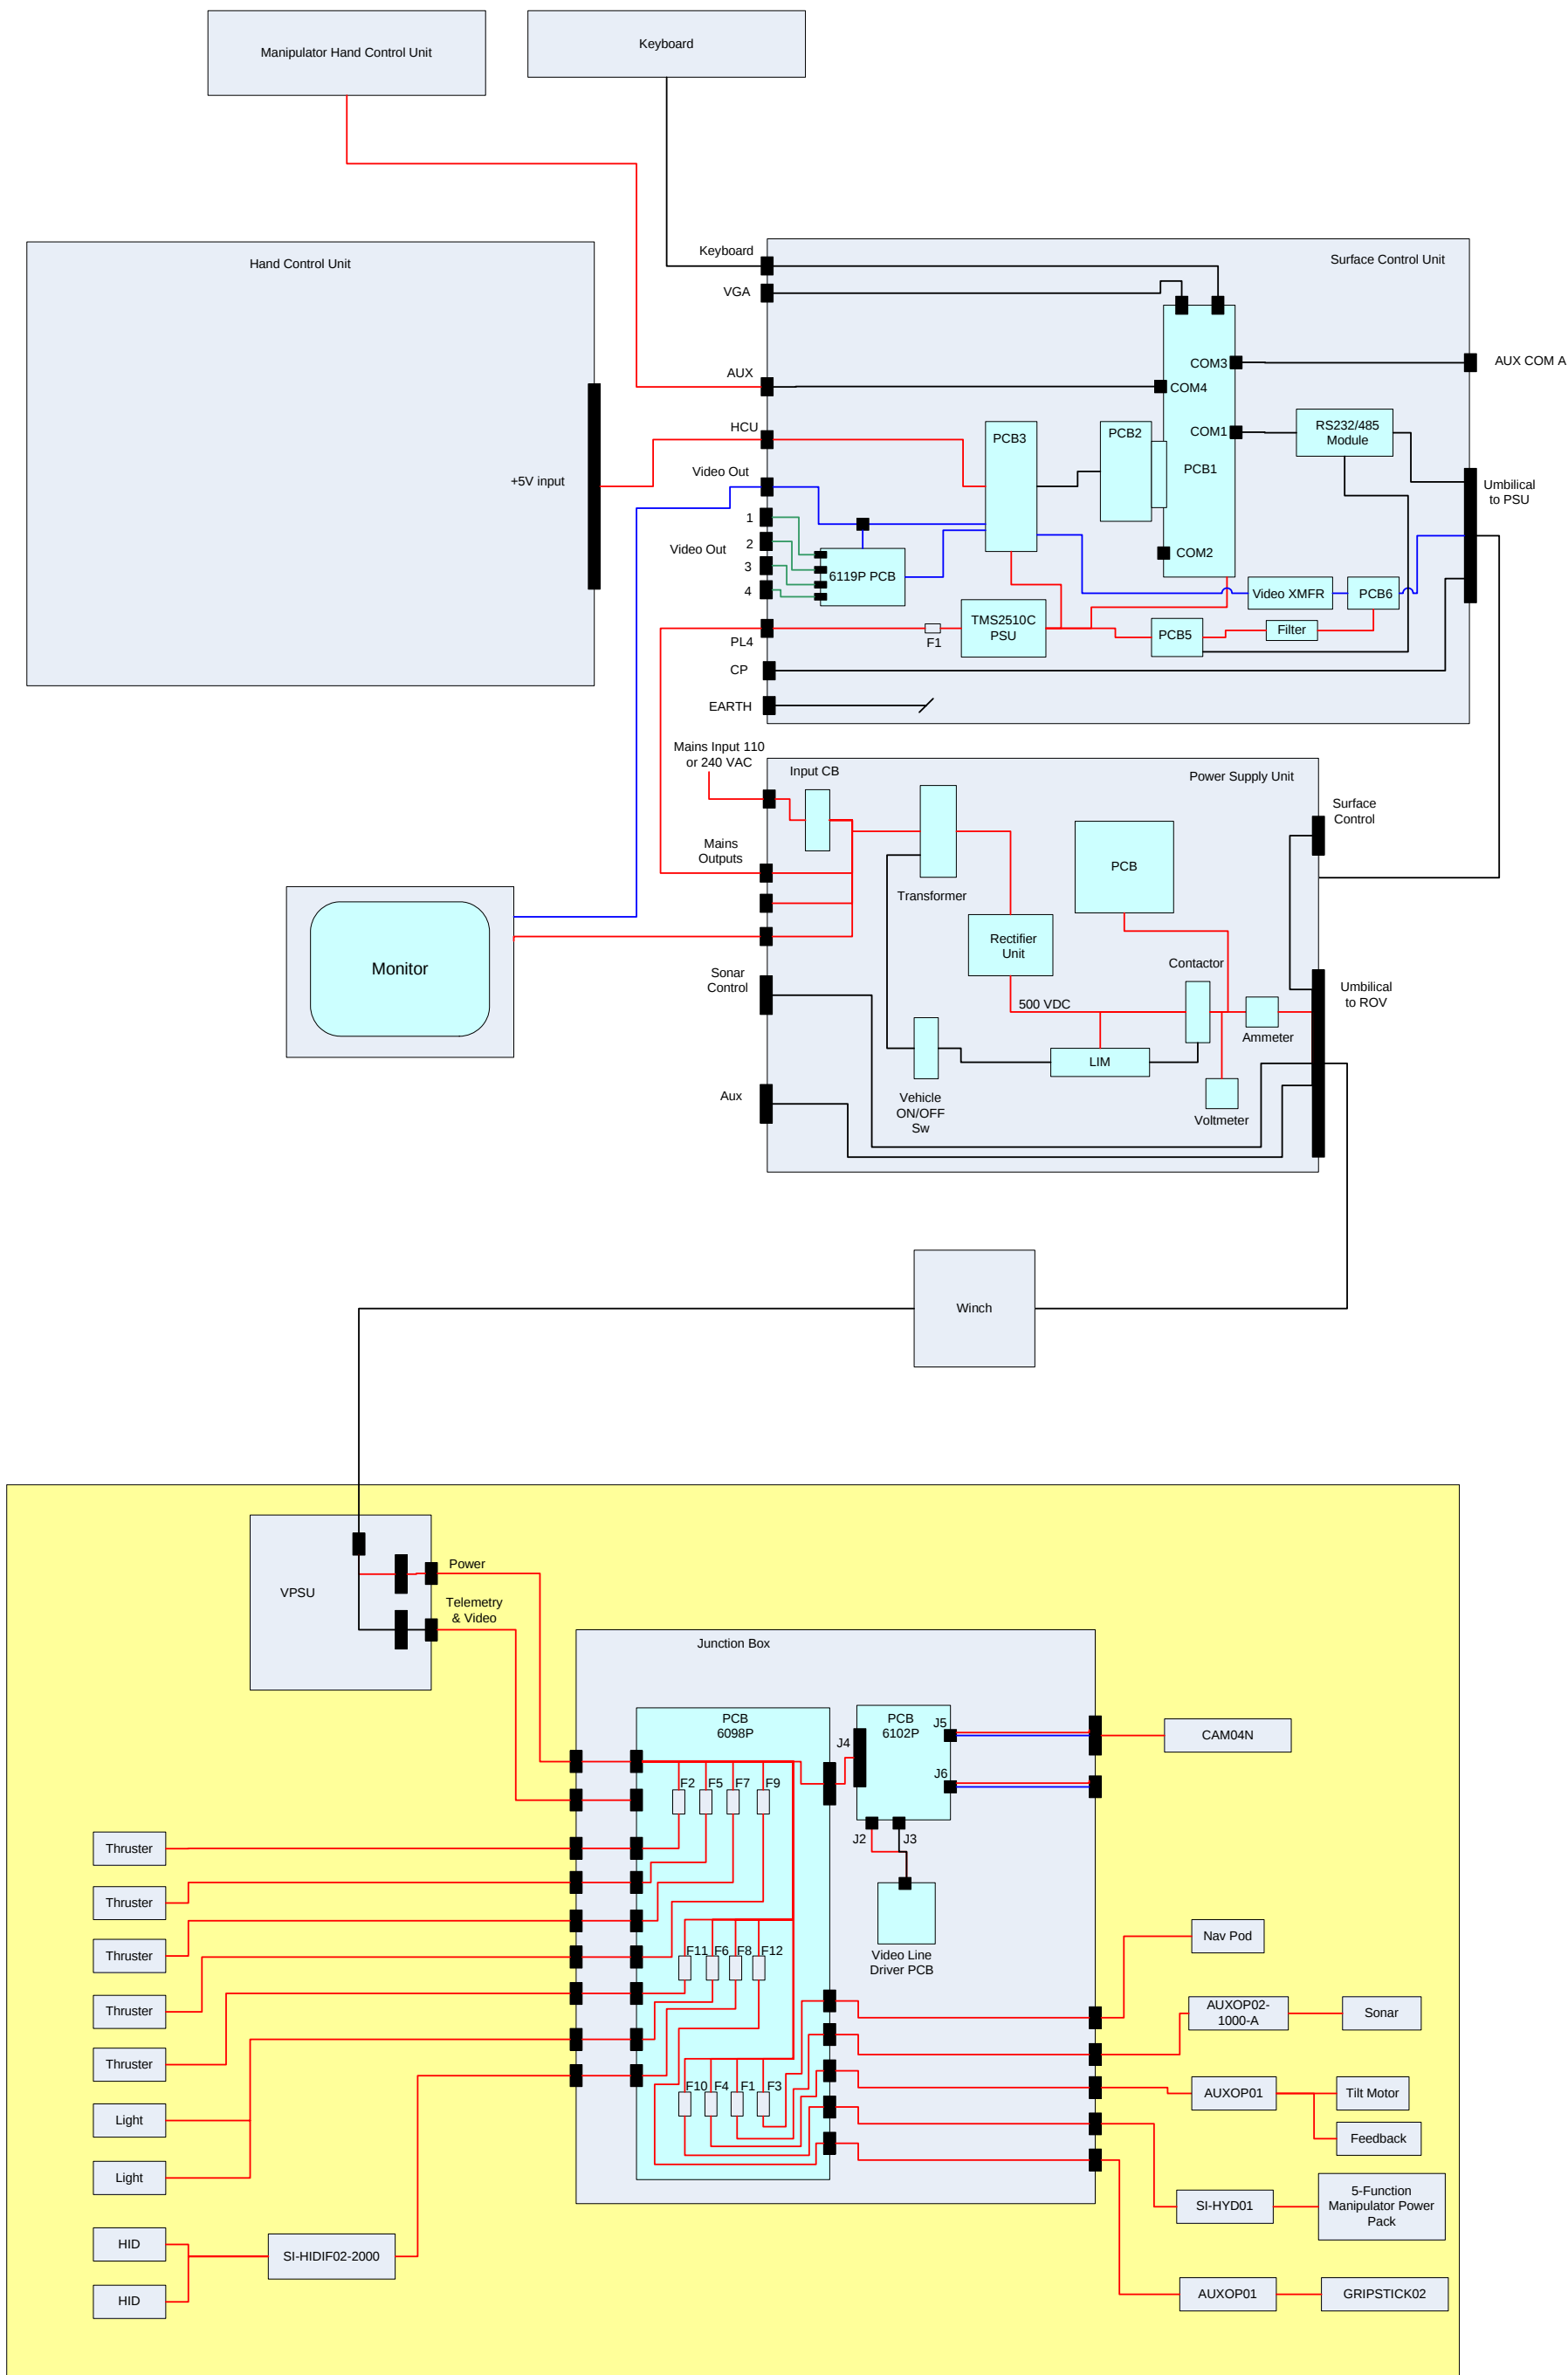

Fig. 5. Power Distribution Twisted Pair Setup
Refer to Figs. 5 and 6. The VPSU DC-DC Converter converts the 500 VDC input to 48 VDC which is fed to the ROV Junction Box (JB) via a dedicated power cable. The 48 VDC is distributed to the various units fitted to the ROV via individual fuses as follows: